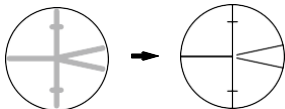

Fig 7
- (1) Rotate eyepiece to make the reticle being clear. (figure 7)